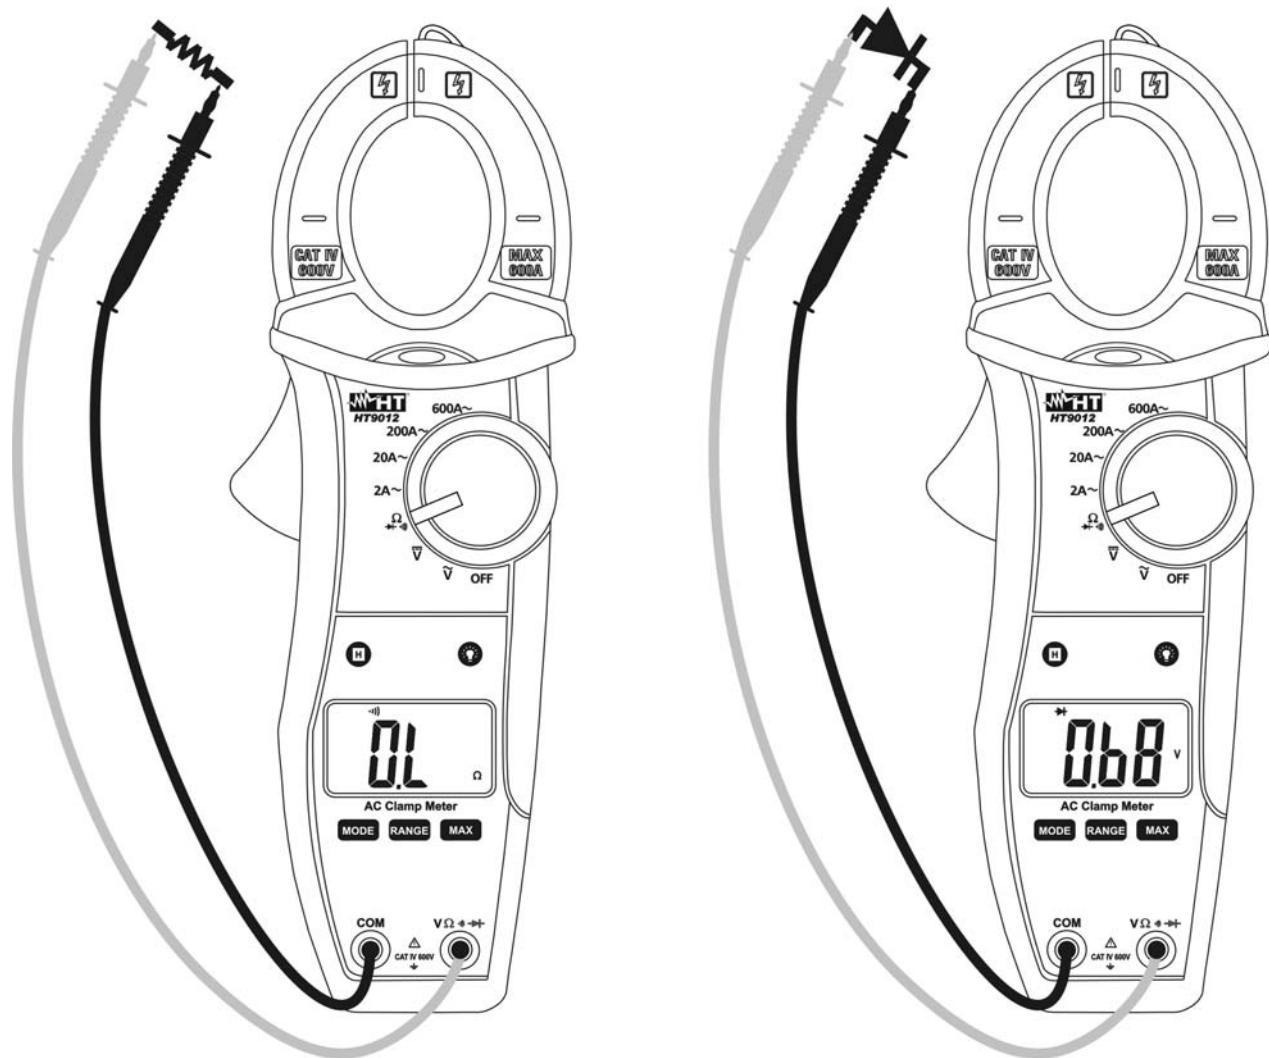

Fig. 7: Taking continuity test and diode test
3. Insert the red test lead plug into $V\Omega \rightarrow \cdot \parallel$ jack and the black test lead plug into **COM** jack and perform continuity test on the object on test (see Fig. 7 – left side). Buzzer emits sound if the measured resistance value is less about 100Ω
5. Connect the red test leads to the anode of diode on test and the black test lead on the cathode ones (see Fig. 7 – right side)